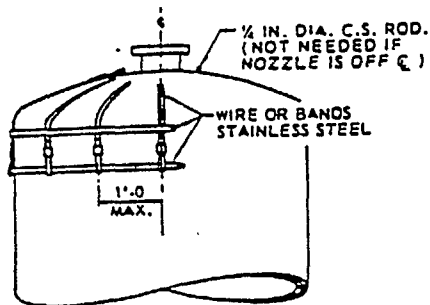
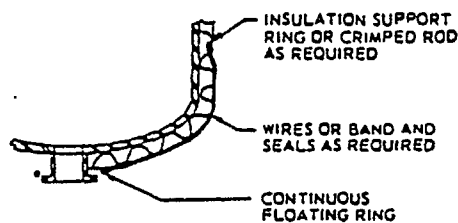

FIGURE 1 - ATTACHMENT OF INSULATION TO TOP OF VERTICAL VESSELS
FIGURE 2 - ATTACHMENTS FOR HORIZONTAL VESSEL HEADS AND BOTTOM HEAD OF VERTICAL VESSELS WITHOUT SKIRT
- c. Secure insulation on the top head of vertical vessels per Figure 1 and the heads of horizontal vessels and the bottom head of vessels not supported on skirts per Figure 2.